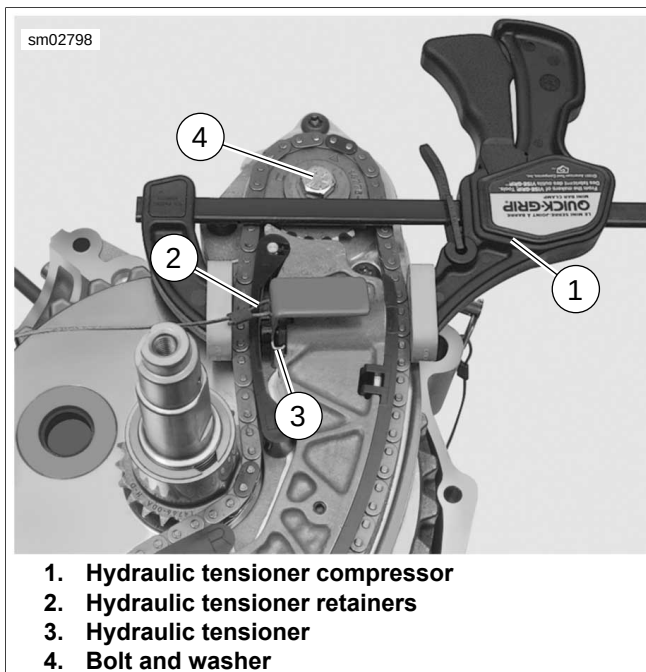
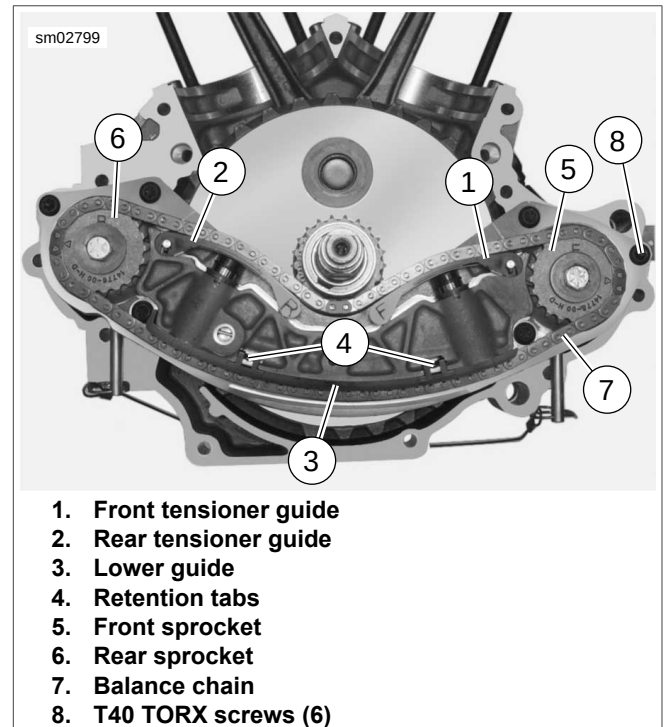

Figure 3-127. Hydraulic Tensioner Tools (Front Tensioner Shown)
Figure 3-128. Chain Tensioner Guides
3. See Figure 3-127. Compress hydraulic tensioners using HYDRAULIC TENSIONER COMPRESSOR (Part No. HD-44063) (1). Slide HYDRAULIC TENSIONER RETAINERS (Part No. HD-44408) over lip of tensioner (3) and release tool.
4. Loosen the bolts (4) on the front and rear balance shafts.
5. See Figure 3-128. Pry tabs on front and rear tensioner guides (1, 2) clear of locking post and remove guides. Use a small screwdriver to pry guide upward from locking post.
6. Release retention tabs and pry lower chain tensioner guide (3) away from chain guide bracket assembly.
7. See Figure 3-127. Remove bolts and washers (4) on the front and rear balance shafts.
8. See Figure 3-128. Remove front (5) and rear (6) sprockets and balance chain (7). Remove spacers from balance shafts.
9. Remove six screws (8).